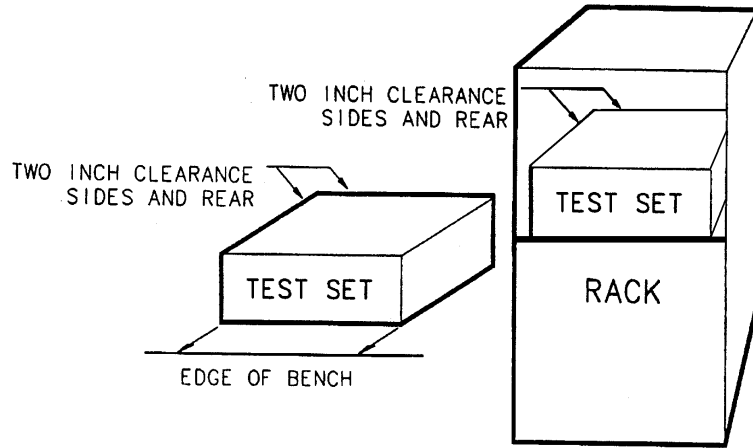

Figure 2 Ventilation Clearance Requirements
- 5 If you are installing the test set into a cabinet, ensure there are at least two inches of clearance around the sides and back of the test set and the system cabinet. See Figure 2, “Ventilation Clearance Requirements,” . The convection into and out of the test set must not be restricted. The ambient temperature (outside the cabinet) must be less than the maximum operating temperature of the test set by 4°C for every 100 watts dissipated in the cabinet.